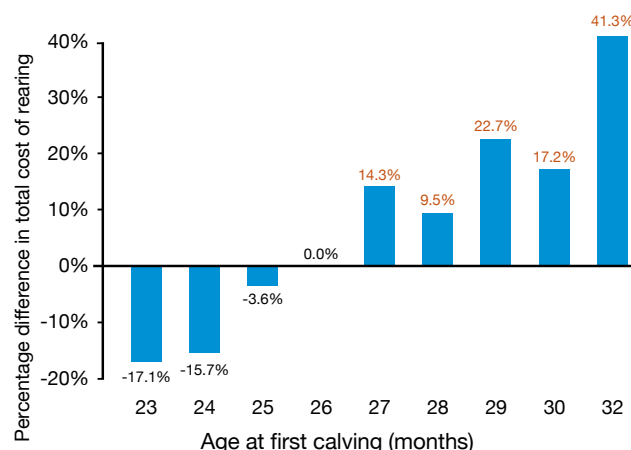

Figure 23. Percentage difference in total cost of rearing with 26 months as the base month (0%)
- Age at first calving is strongly associated with the cost of rearing (Figure 23)